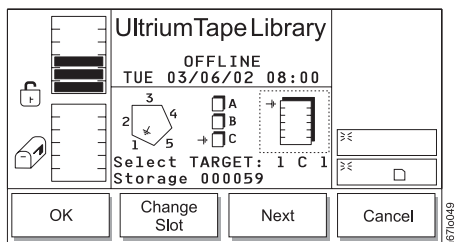

Figure 4-32. Change Slot Dialog
- b. Press the button below the **Change Magazine** softkey until the arrow in the middle icon points to the magazine that you want. Press the button below the **Next** softkey. The Change Slot Dialog displays (see Figure 4-32).